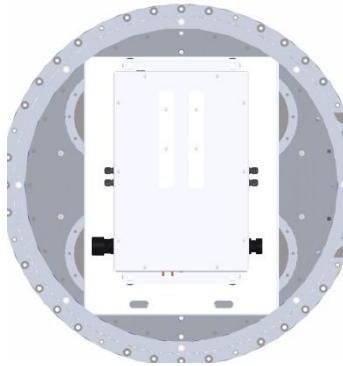

Figure11: Rear View with Perf Cover Plate Removed
- a. To remove the electrical connection, remove the plate mounted to the perforated cover. This allows access to the DPT connection. Figure11 shows what should be seen after the plate is removed.